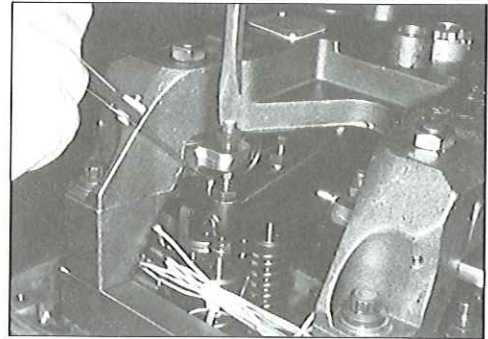

FIG. 23
5. Follow the same procedure and set the same clearance between the slave piston leveling screw and the rocker arm adjusting screw (see Fig. 23).